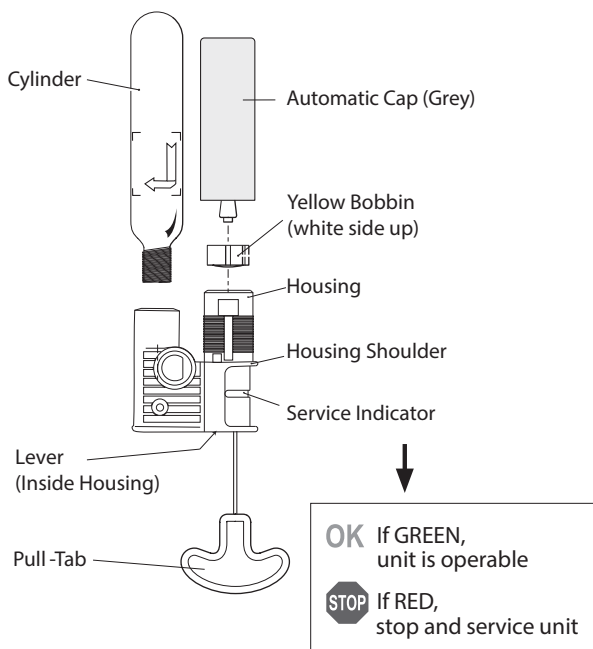

FIGURE 7 MD2020 AUTOMATIC MODE
5. **IMPORTANT!** The yellow bobbin must be installed into the housing (Fig. 7), white side up, aligning the slots on the bobbin with the ridges inside the threaded housing. The bobbin will slide in.
1. Open the inflator cover flap to expose the inflator (Fig. 7).
7. **IMPORTANT!** Bobbin (yellow) must be installed into the housing (Fig. 7), white side up, aligning the slots on the bobbin with the ridges inside the threaded housing. The bobbin will slide in.
11. Examine the service indicator (Fig. 7) and ensure it is GREEN. If the service indicator is red, the mechanism has been fired or is incorrectly fitted and the inflator requires service.